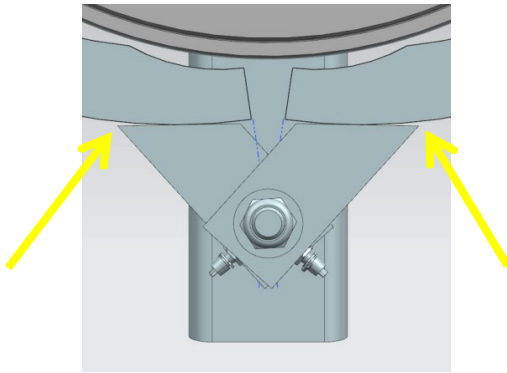

Figure 16: Weld Locations
- C. Grind off the weld that attaches the lower clamp ring arms to the clamp ring, removing the two lower clamp ring arms, see Figure 16.